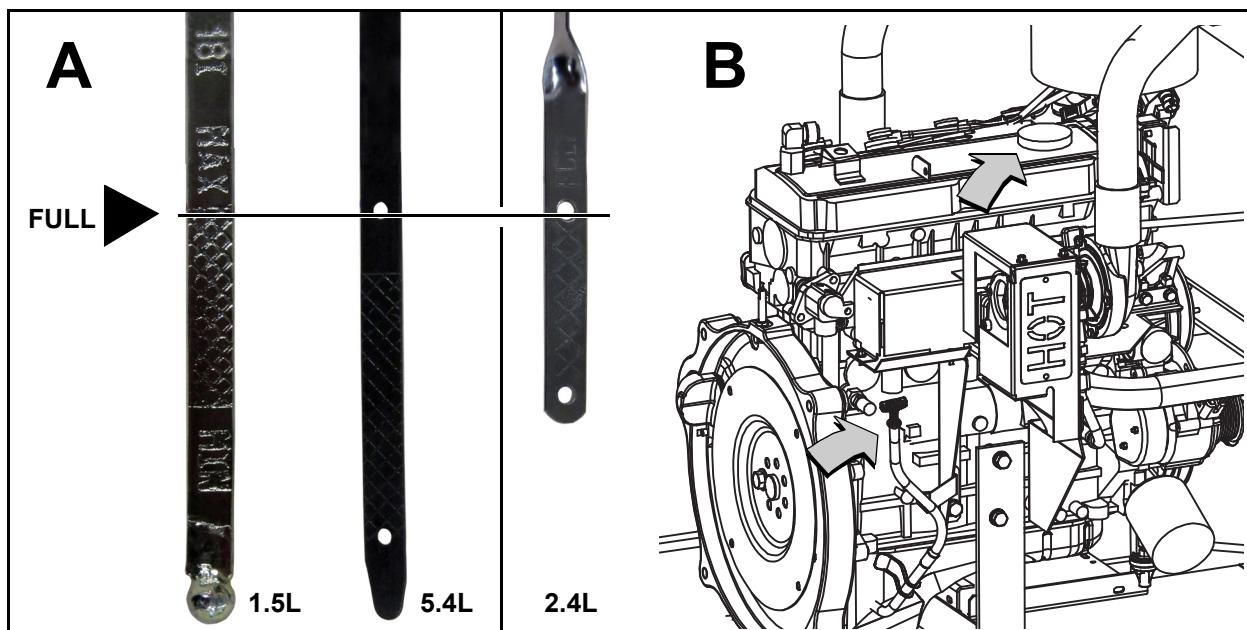

Figure 5-7. Oil Level Dipstick and Oil Fill Cap
- Remove the dipstick and wipe dry with a clean, lint free cloth. See B of Figure 5-7
7. Verify that the oil level is at or near the FULL mark. Add oil as necessary. See A of Figure 5-7